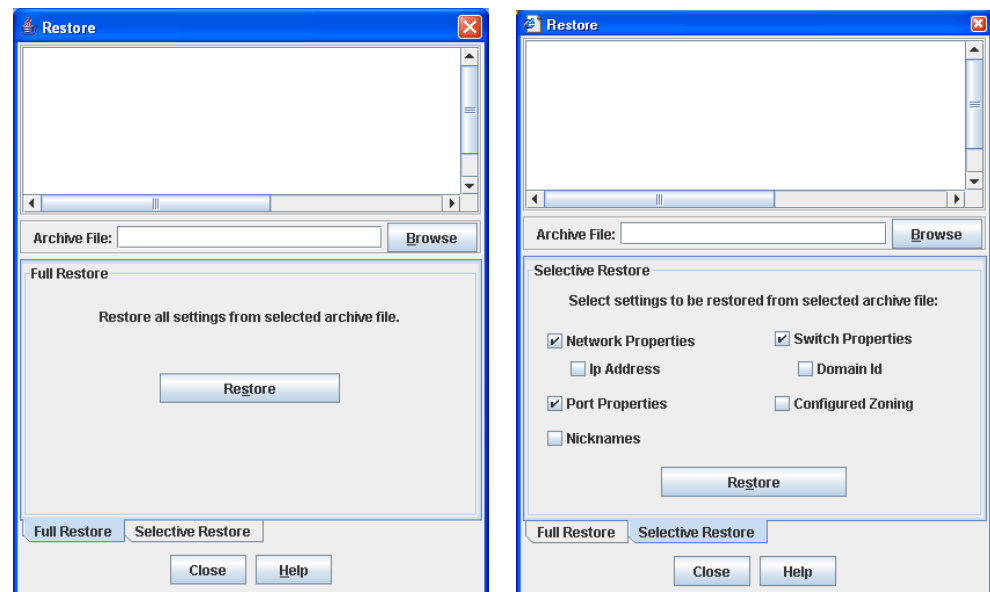

Figure 19. Restore Dialogs—full and selective
2. Open the Switch menu and select **Restore** to display the Restore dialog shown in Figure 19. The Restore dialog offers a **Full Restore** and a **Selective Restore** tab.